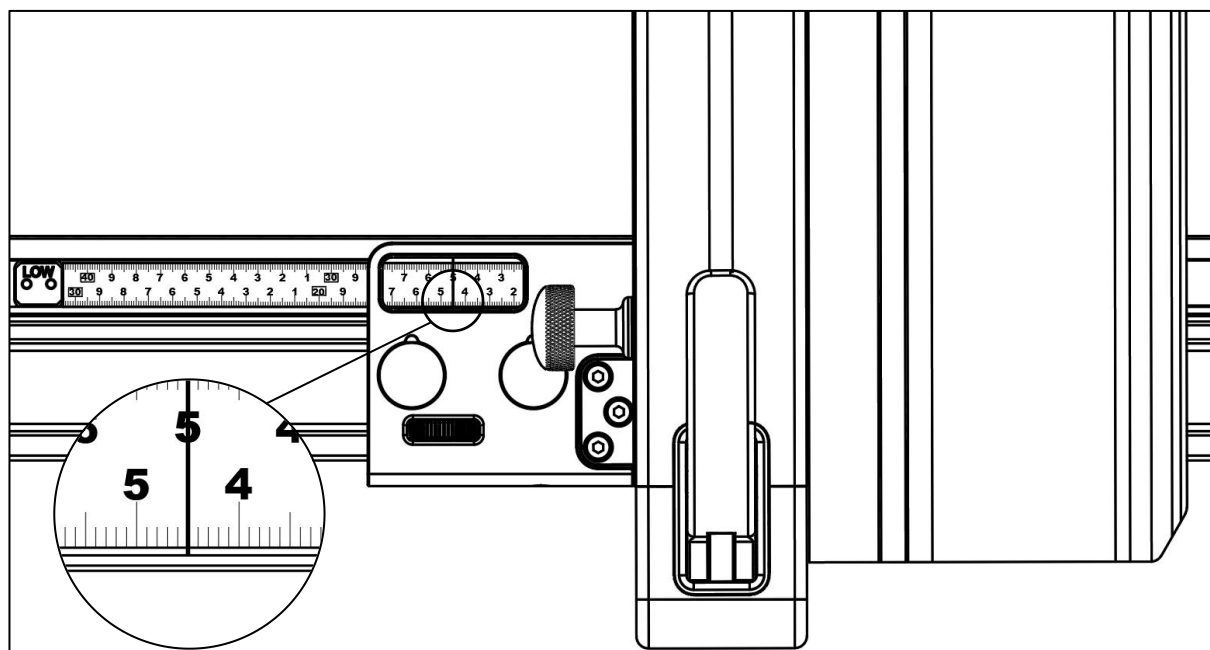

Fig. 28
- Fig. 28: Low Fence Plate configuration